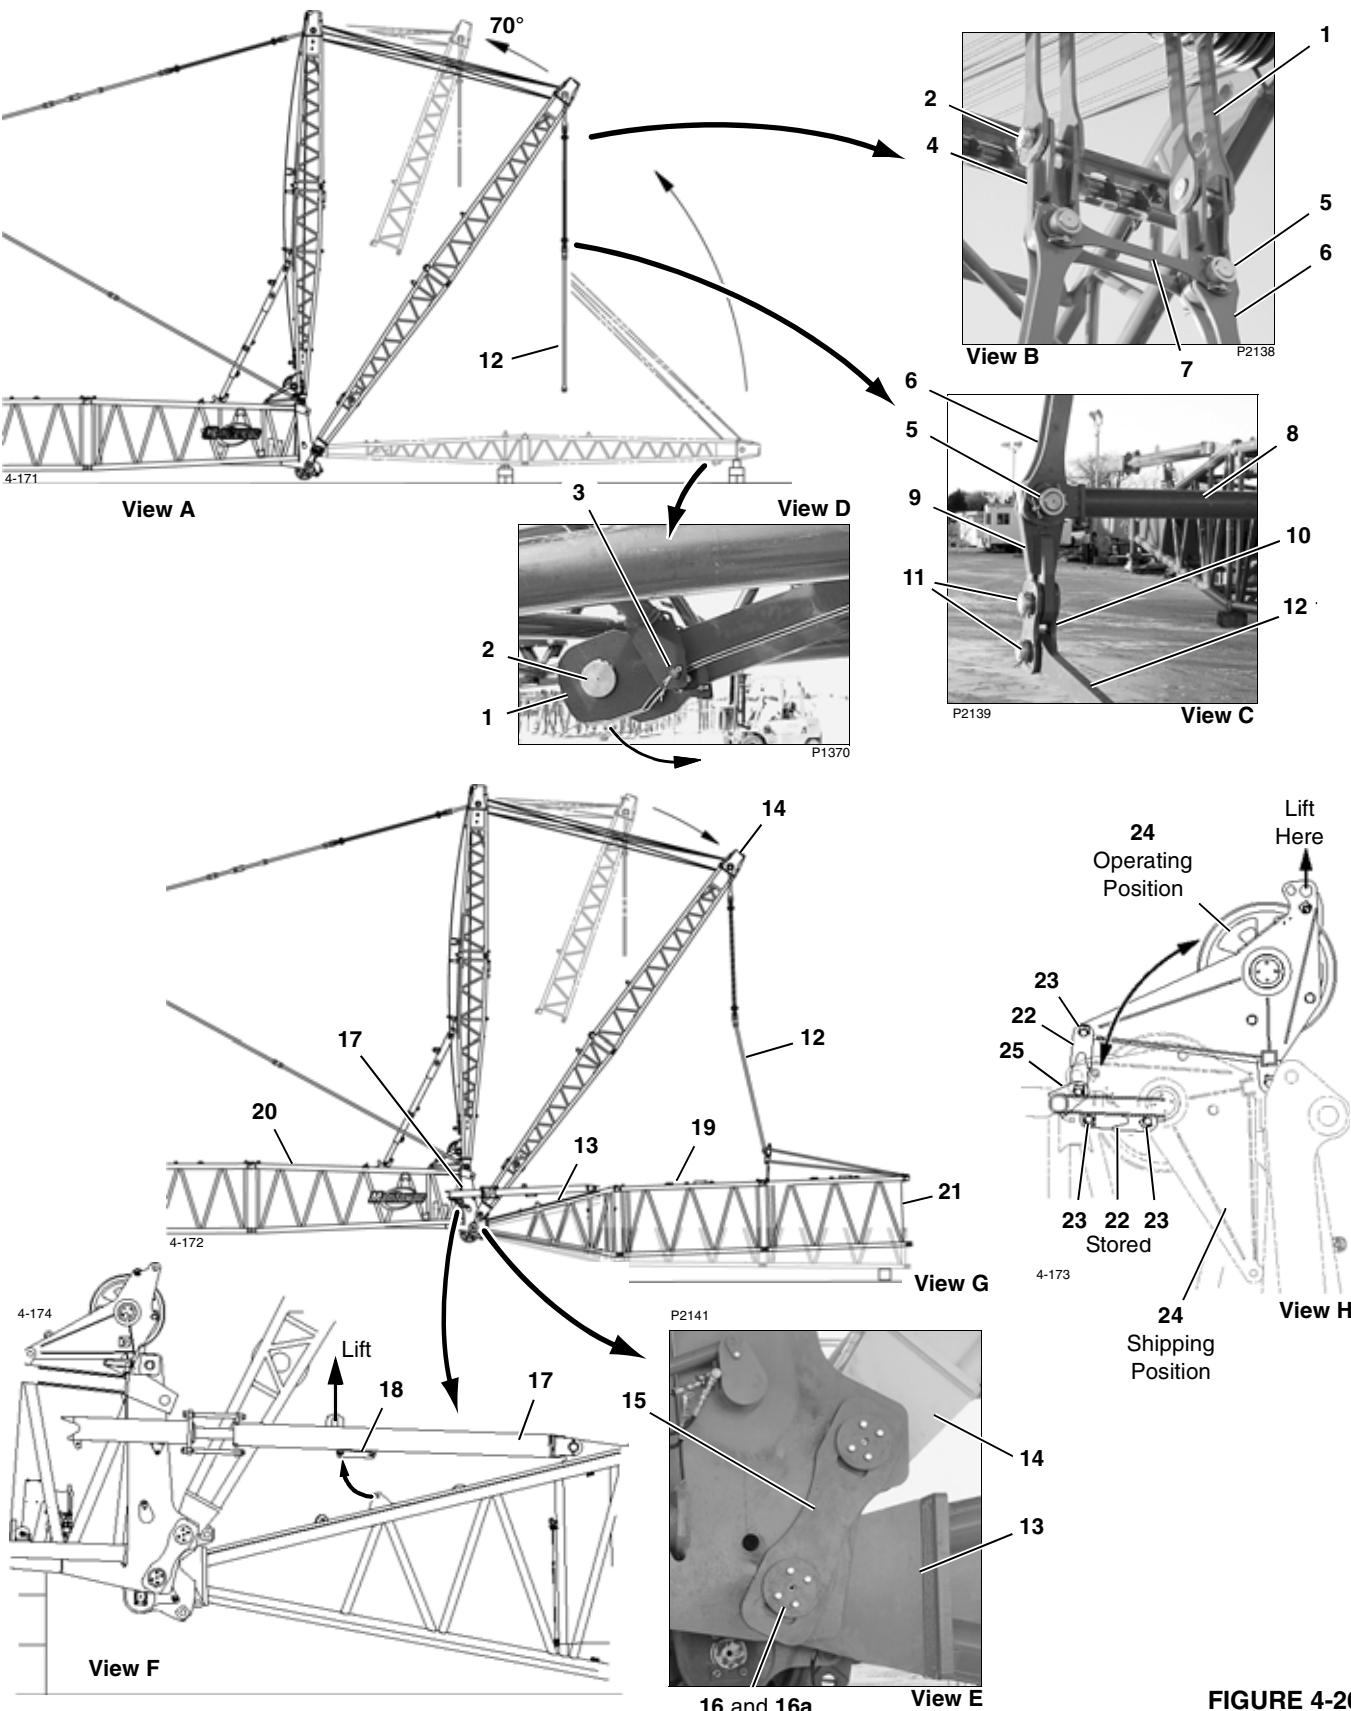

FIGURE 4-26
See Figure 4-26, Views A – D for following procedure.
See Figure 4-26, Views E – G for following procedure.
- c. Lift jib butt and inserts into position at end of boom top (20) as shown in View G.
- d. Guide jib butt as required so jib stops (17) are outside of jib strut (14) as shown in View F.
- e. Align connecting holes in jib butt (13) with holes in boom top (20) and install keeper plates (15, View E) and end plates (16).
- See Figure 4-26, View H for following procedure.
- a. Remove links (22) and pins (23) from storage.
- b. Support wire rope guide (24) with slings from assist crane.
- c. Remove pins (23) from lugs (25).
- d. Raise wire rope guide (24) to operating position.
- e. Pin links (22) to wire rope guide (24) and to lugs (25) with pins (23). **Wire rope will rub on jib point if links are not installed.**
- f. Store extra two pins (23) in link storage lugs.
Component Identification for Figure 4-26
See Figure 4-26, View F for steps a - c in following procedure.